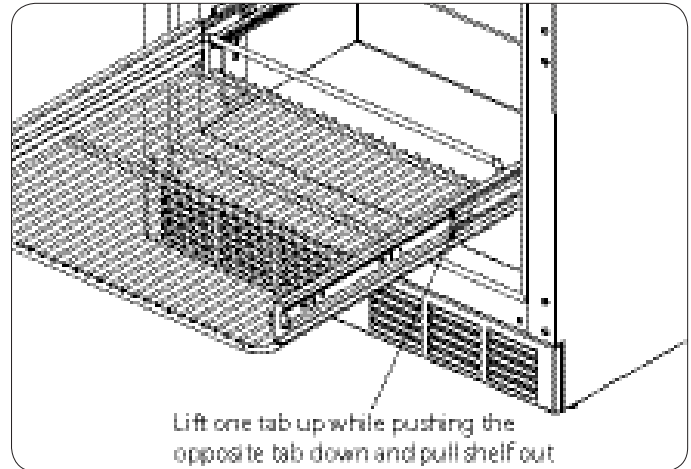

Figure 4. Sliding Shelf Extender Tabs
1. Pull the shelf out to its farthest position. Locate the tabs in the middle of both extenders (Figure 4). Lift one tab up, while pushing the opposite tab down and pull shelf out.